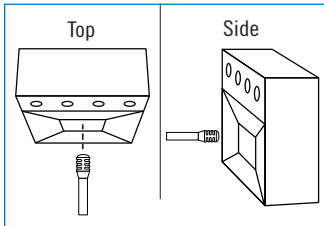

Figure 4
**Electric Guitar Amplifier** – Use a dynamic microphone roughly 1-4 inches from the loudspeaker, pointed toward the center of the speaker cone (see figure 4).
**Electric Guitar Amplifier** – Use a cardioid dynamic microphone roughly 1-4 inches from the loudspeaker, pointed toward the center of the speaker cone (see figure 4, page 9).